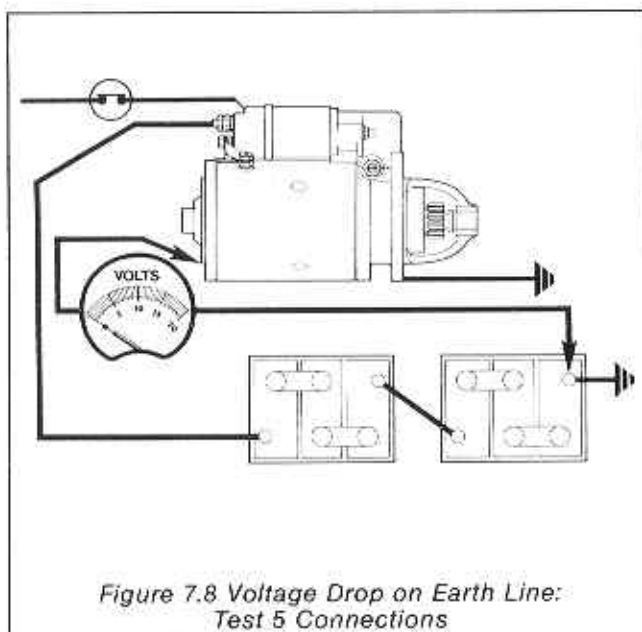

Figure 7.8 Voltage Drop on Earth Line: Test 5 Connections
7.18 Connect the voltmeter between the battery earth terminal and the starter (commutator end bracket) as shown in Figure 7.8. Operate the starter switch and check that the voltmeter reads practically zero.